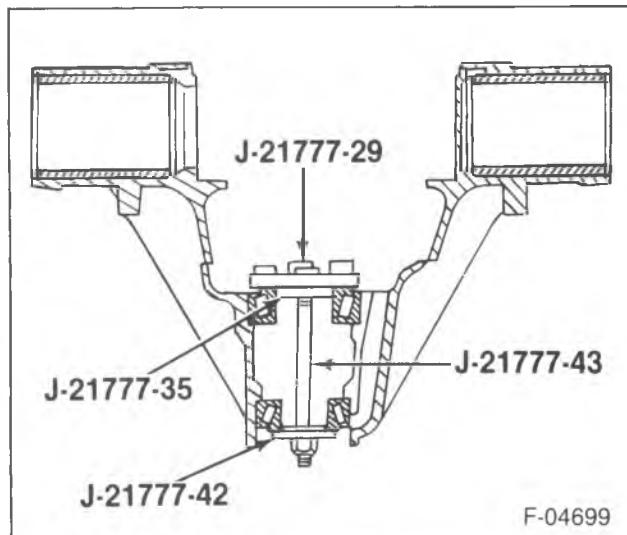

Figure 11—Gage Plate Components
- Place the bearings (5) and (39) into the pinion bearing cups.
- Install J 21777-35, J 21777-42, J 21777-29, and J 21777-43 to the pinion bore (figure 11).